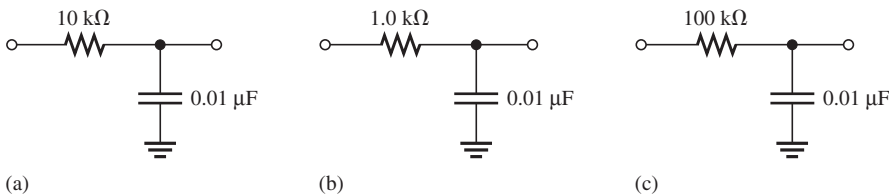

FIGURE 7-26
- Determine the phase shift through each network in Figure 7-26 at a frequency of 2 kHz.